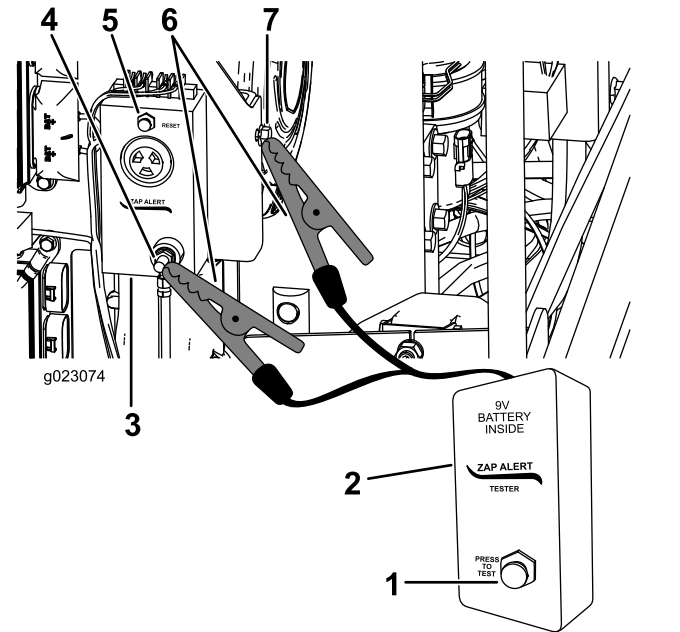

Figure 33
3. Connect an alligator clip from the Zap-alert tester to the grounding stud on the Zap-alert system (Figure 33).
5. Press the TEST button on the Zap-alert tester (Figure 33).
6. Press the ZAP-ALERT RESET button to stop the alarm (Figure 33).